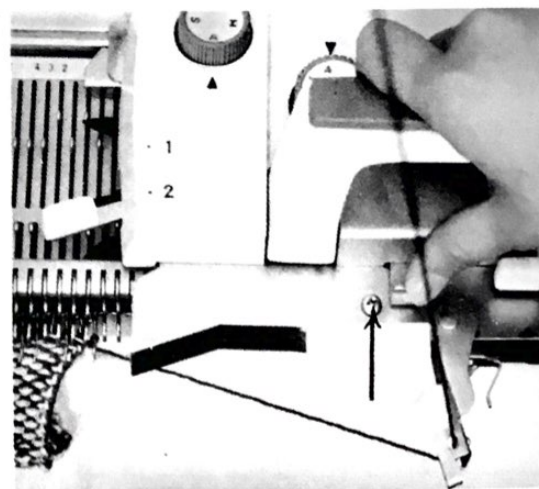

Fig. 18
Either lever will bring forward needles from Position (C) or (D) into Position (E) when moving the carriage and at the same time pushing in the leading Lever. For instance, set Pattern Control Knobs to A, Needle Selection Control Knobs to No. 4, and turn the Needle Selection Guide Strip so that the visible face is 43214321 — see Table 1, page 15. Push back into Position (B) the 2nd and 4th needles near the Carriage as shown in Fig. 18, and move the carriage at the same time pushing in the leading Needle Forwarding Lever.